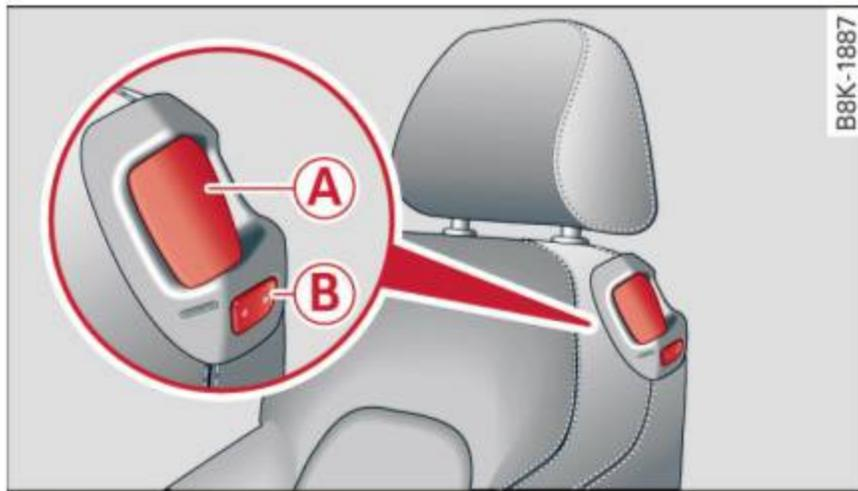
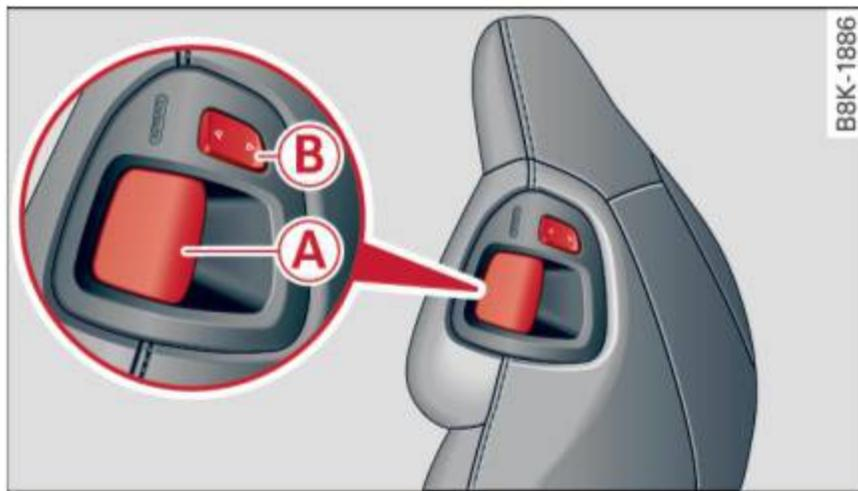

Fig. 53 Comfort seats*: easy entry controls
Fig. 54 Sport seats*: easy entry controls
- ▶ To fold the front seat backrests forward/back, lift the latch (A) ⇒ fig. 53 or ⇒ fig. 54 and fold the backrest forward.
- ▶ To move the front seats forward/back, press and hold the (B) button until the seat has reached the desired position.